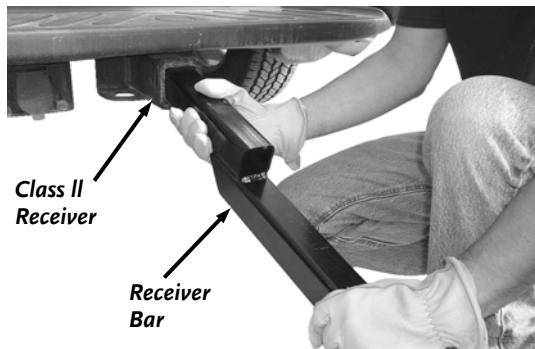

Figure 42
- Lift the end of the Receiver Bar and start it into the Vehicle Hitch (**Figure 42**).